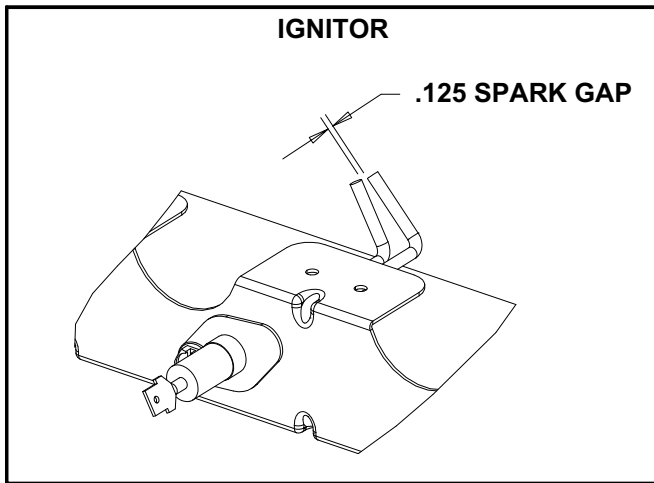

FIGURE 11
- 9- Locate the ignitor. Check ignitor spark gap with appropriately sized twist drills or feeler gauges. See figure 11.